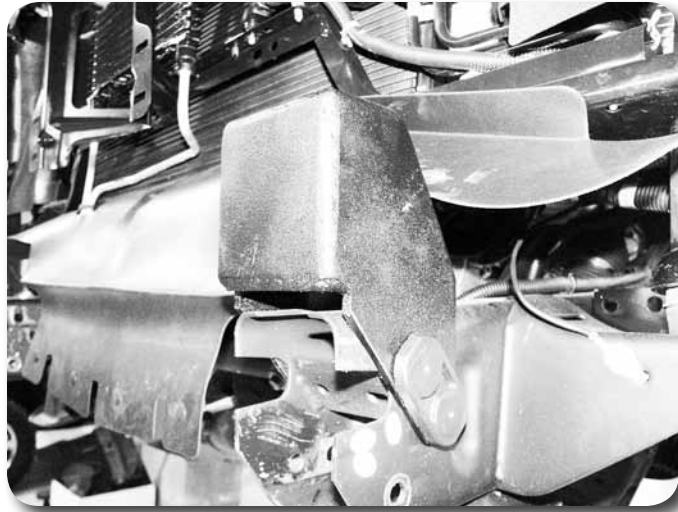

Figure 22
45. Loosely attach the new provided front bumper brackets to the frame rails with the factory hardware **Figure 22**.